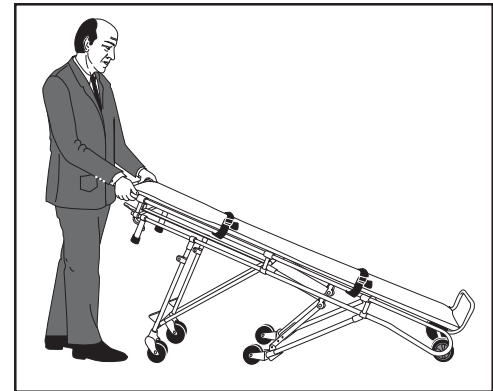

Figure 6 - Folding the Loading-End Legs
2. Squeeze the right leg-control handle to unlock the loading-end legs, and begin lowering the cot (Figure 6, page 9). Release the leg-control handle.